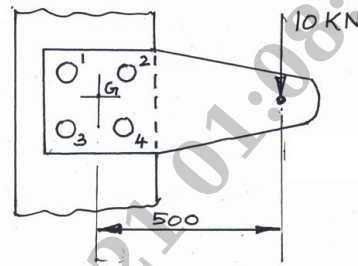

Fig. Q4 (b)
b. A structural connection shown in Fig. Q4 (b) is subjected to an eccentric force of 10 kN with an eccentricity of 500 mm. The centre distance between bolts 1 and 2 is 200 mm and the centre distance between bolts 1 and 3 is 150 mm. All the bolts are identical. The bolts are made of a material having yield strength in tension of 400 MPa. Take factor of safety as 2.5. Determine the size of the bolts. **(12 Marks)**